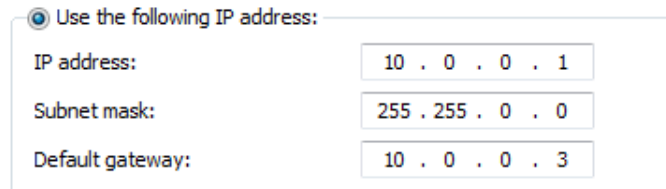

Figure 14 Internet Protocol Version 4 dialog box – Use the following IP address
- e On the General tab of the dialog box, select **Use the following IP address** and set the IP address, subnet mask, and default gateway to the values shown in Figure 14. Click **OK** to close the dialog box.